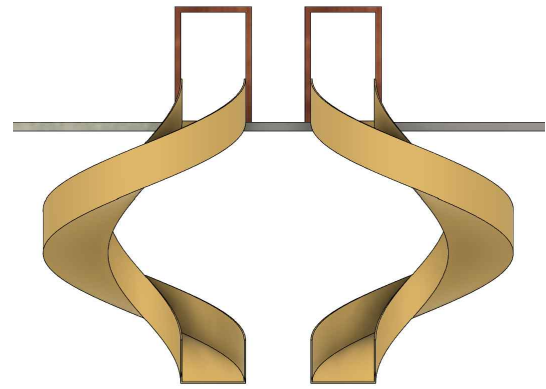
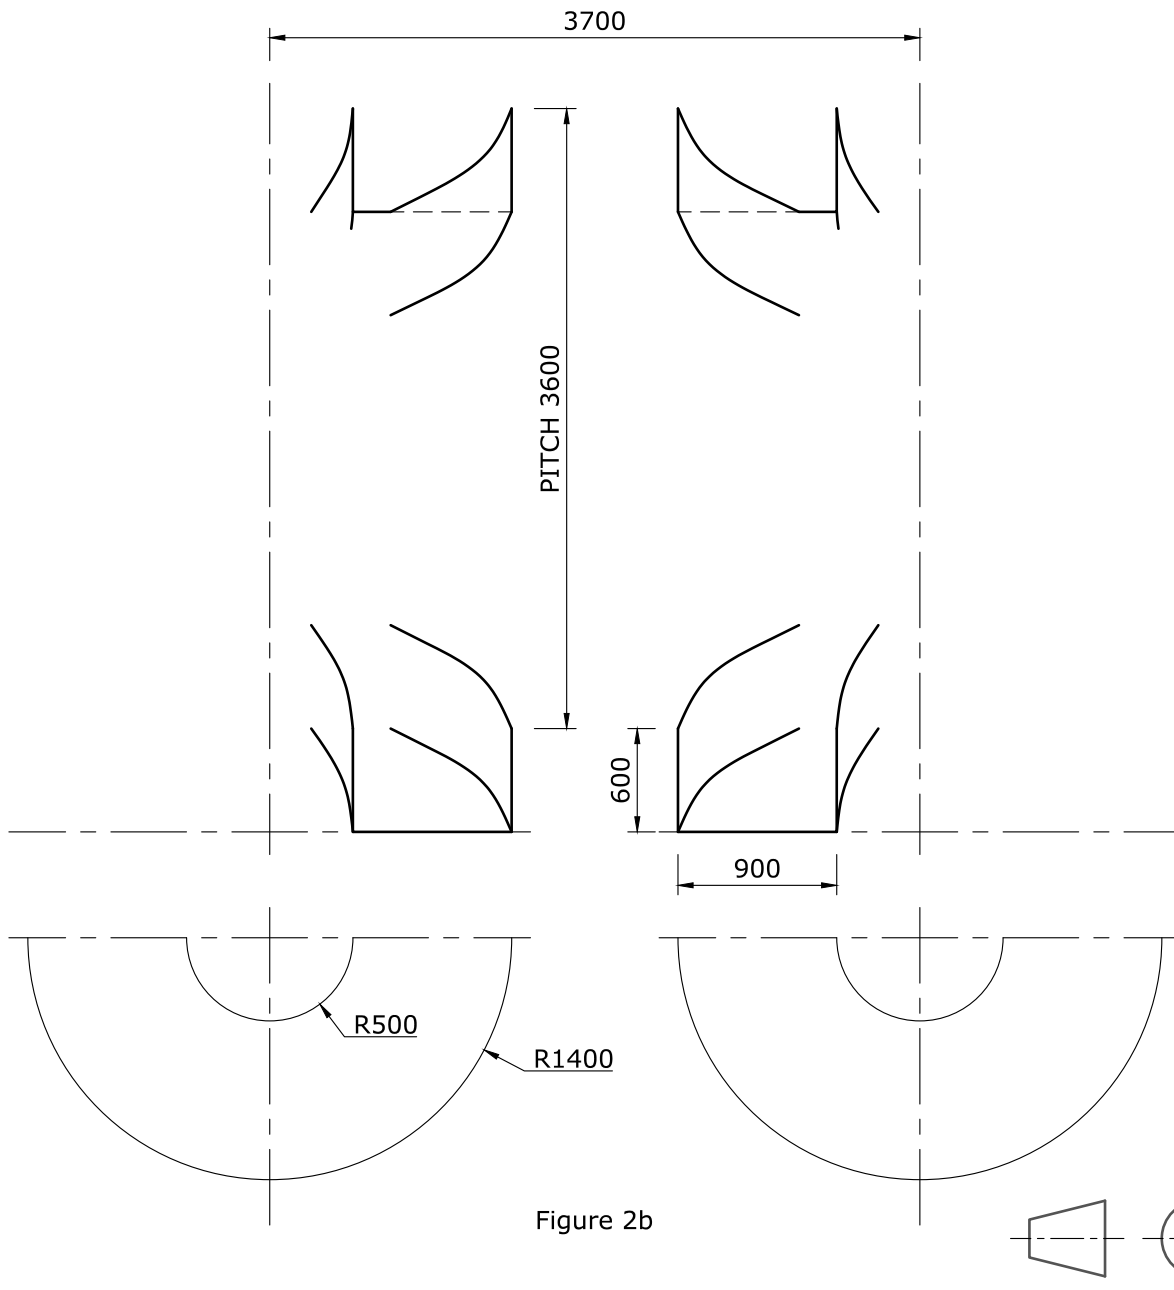
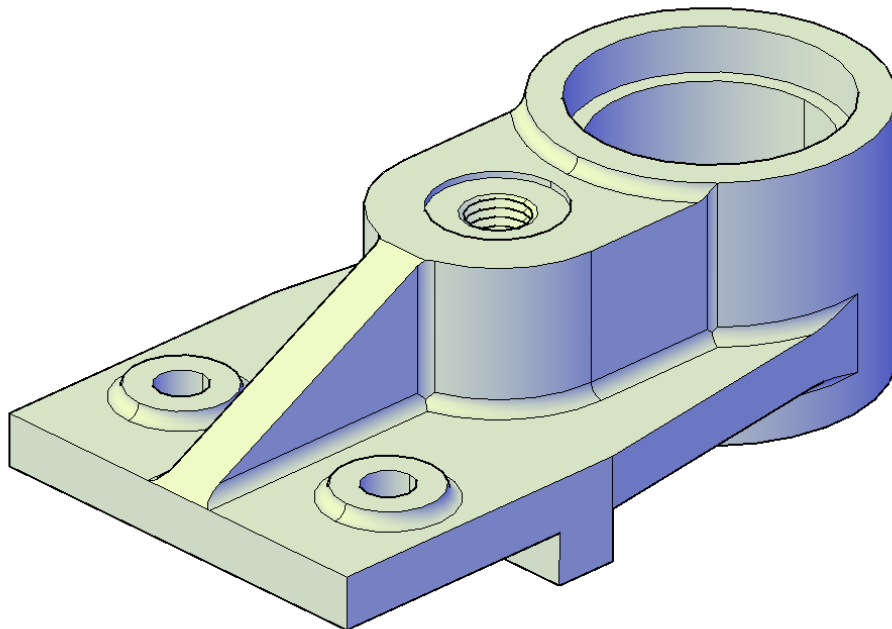

Figure 2a
Figure 2b
Figure 2a
Figure 2a shows an illustration of two identical helical fire escape chutes which have a rectangular 'U' shape cross section. From the first floor to the ground floor the helix turns a total of 360°. Details about the cross section, the pitch, the outside diameter of the helices and the distance between their axes are given in Figure 2b.
- a. copy Figure 2b to a scale of 1:20; (2)
- b. construct one turn of both helical chutes; (12)
- c. line in the visible outlines; (4)
- d. line in the hidden detail; (1)
- e. label the right-hand and the left-hand helical chutes. (1)
Note: The dimensions in Figure 2b are in millimetres.
An illustration of a cast iron bracket is given in Figure 2a. Two full size orthographic views of the bracket are given in Figure 2b (on the A3 sheet). You are requested to: